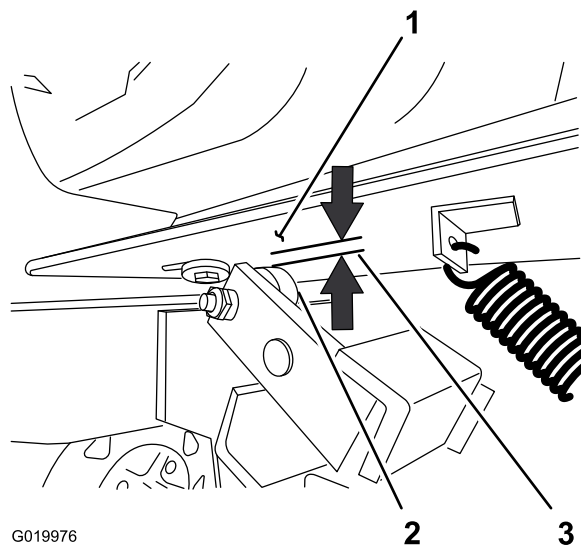

Figure 69
2. Measure the air gap between the engine deck and the roller on the clutch (Figure 69).